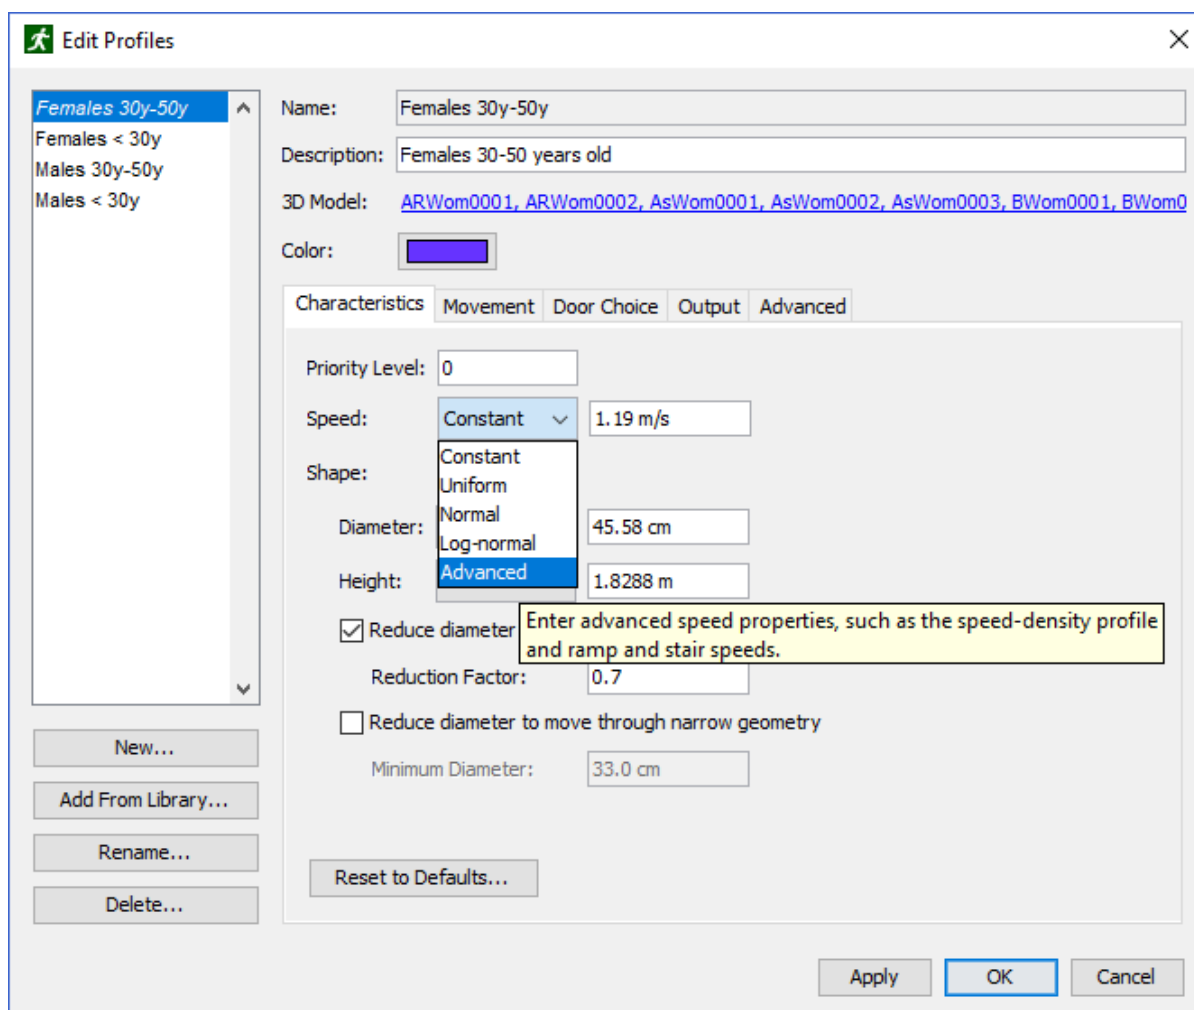

Figure 88. Editing advanced speed properties
3. Next to **Speed**, click the drop-down box and select **Advanced** as shown in Figure 88.